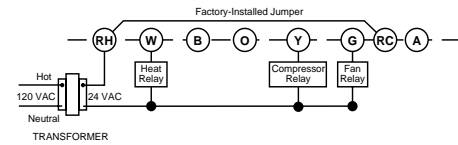
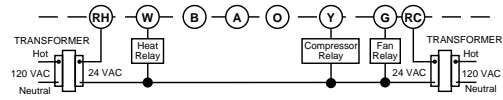

Figure 2. Typical wiring for single transformer heating/cooling system
Figure 3. Typical wiring for two-transformer heating/cooling system
- **If your system has more than two wires:** Use the cross reference chart to determine correct wire connections. If you have a four-wire heat/cool system leave the factory installed jumper between **RC** and **RH** attached (see Fig 2.). If your system has five wires remove the factory installed jumper between **RC** and **RH** (see Fig 3.).